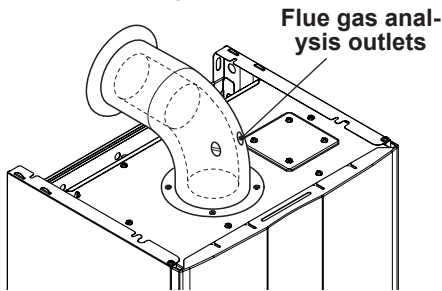

Figure 9.10
- Connect a flue analyser to the flue gas analysis outlets on the flue gas exhaust on the boiler Figure 9.10.
- Check the boiler combustion using the outlets located on the flue pipes (Figure 9.10) and compare the data measured with the following.